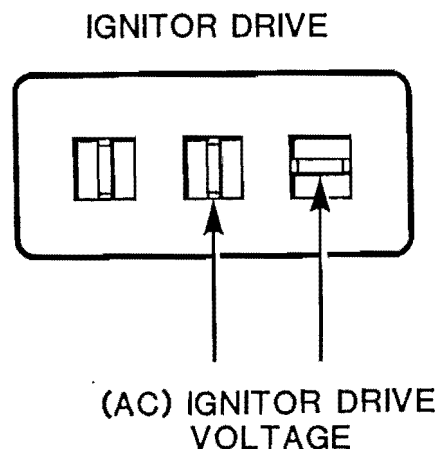

Fig. 15 Ignitor Drive Plug.
- c No flash, and no "snap" at all indicates the ignitor or the power supply ignitor circuit is not working. The ignitor itself, the cabling to the power supply, or the ignitor drive circuitry in the Power Supply is at fault. You can check for ignitor drive signal from the power supply by monitoring the plug at the Lamp Housing end of the ignitor drive cable. Detach the cable from the Lamp Housing and connect a high impedance AC voltmeter across the pins shown in Fig. 15. When you press the "lamp start button", the meter should register some tens of volts. The exact value depends on the meter impedance and how it arrives at the root mean square value displayed. If the voltage is present then the Lamp Housing ignitor is malfunctioning. If the voltage is not present then the power supply ignitor drive circuitry is malfunctioning. You should return the Lamp Housing to Oriel for repair or replacement.